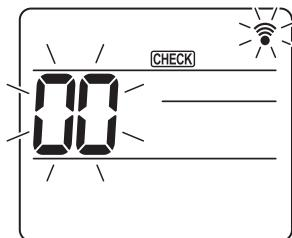
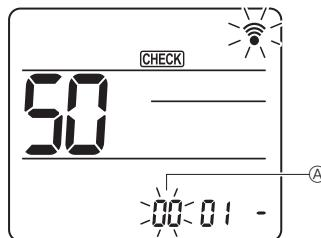
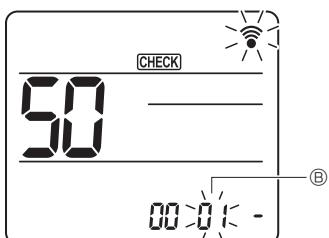
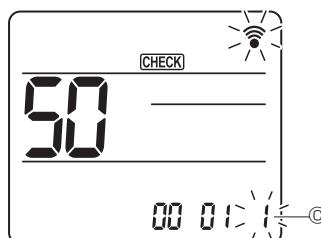

Fig. 7-17
Fig. 7-18
Fig. 7-19
Fig. 7-20
- [CHECK] is lighted and "00" blinks. (Fig. 7-17)
- ② Setting the unit number
- Press the **[▼]** button to set unit number ④. (Fig. 7-18)
- ③ Select a mode
- Press the **[▼]** button to set Mode number ④. (Fig. 7-19)
- ④ Selecting the setting number
- Use the **[▼]** button to change the Setting number ④. (Fig. 7-20)
- ⑤ To select multiple functions continuously
- Repeat select ③ and ④ to change multiple function settings continuously.
- ⑥ Complete function selection